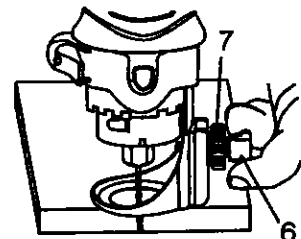

Fig. 5
- 1 Adjust freehand sole plate depth by loosening the depth gauge locking knob (6) and rotating the adjusting knob (7) to move the sole plate in or out as required (see Fig 5)
4. Adjust depth of freehand sole plate as shown in Fig 5
- 2 Adjust cutting bit depth to $\frac{1}{8}$ " longer than the thickness of the material being cut (see Fig 5)